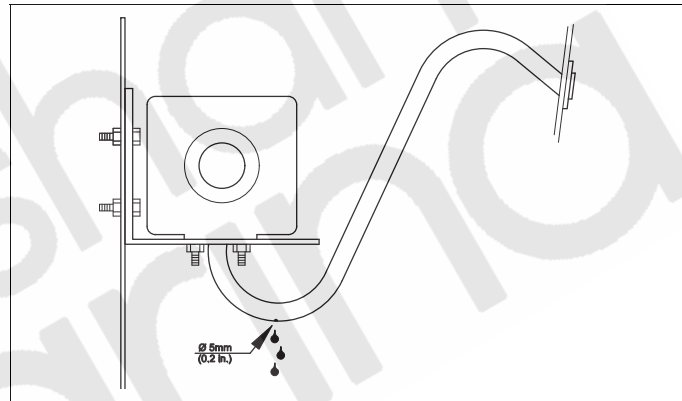

Fig. 26 Combustion air intake line not in direction of travel
- ▶ Drill a drain hole at the lowest point as illustrated in Fig. 26.